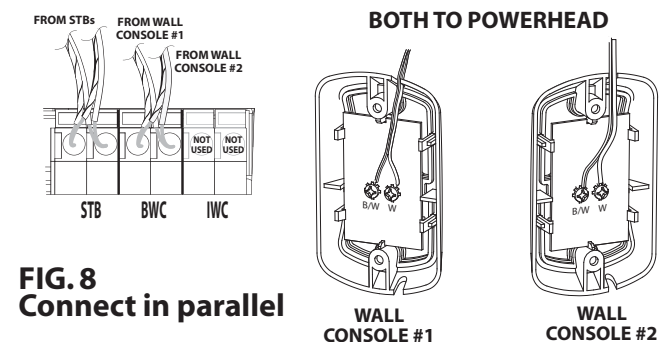

FIG. 8
- **(in parallel)** Run wire from new wall console to powerhead (**Fig. 8**).
- Insert wire into terminal holes and lightly press in the locking clips above each terminal hole (**Fig. 8**)